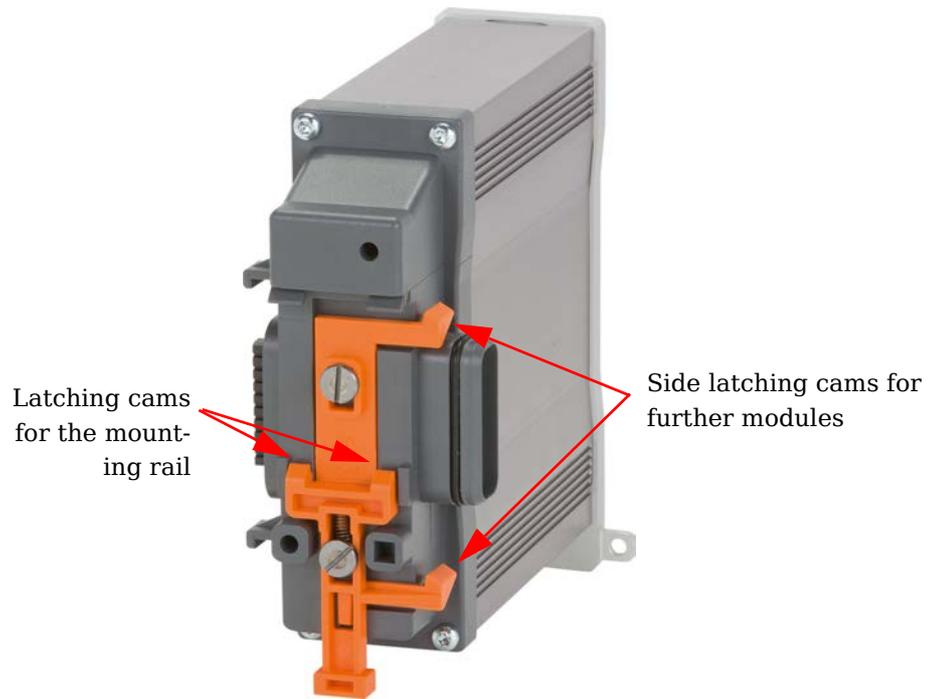

Fig. 5-1 Latching cams.
1. Clip the bus coupler onto the left side of the mounting rail. To do this hang the bus coupler over the upper part of the rail and then press it downwards until the latching cam locks in (Fig. 5-1).
3. Push the module so close to the bus coupler that the side latching cams (Fig. 5-1) also lock in. When mounted correctly, no intervening space remains between the bus coupler and the module on the front panel.